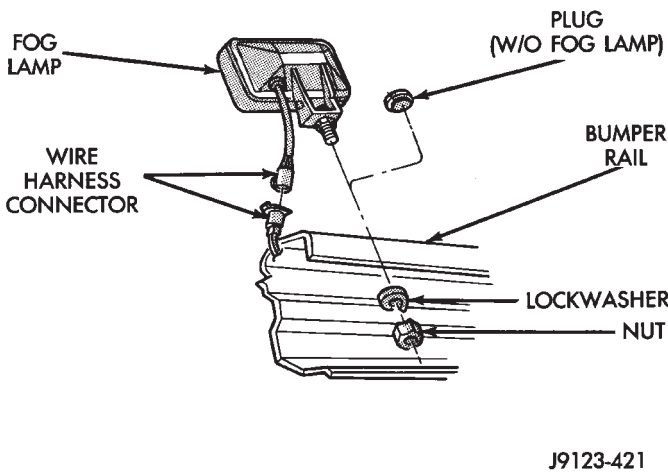

Fig. 10 Fog Lamp
- (12) If equipped, remove the fog lamps (Fig. 10) from the bumper rail.
- (13) If necessary, remove the vacuum reservoir(s) from the bumper rail.
- (14) If necessary, remove the sill crossmember reinforcement brackets from the sillmembers.